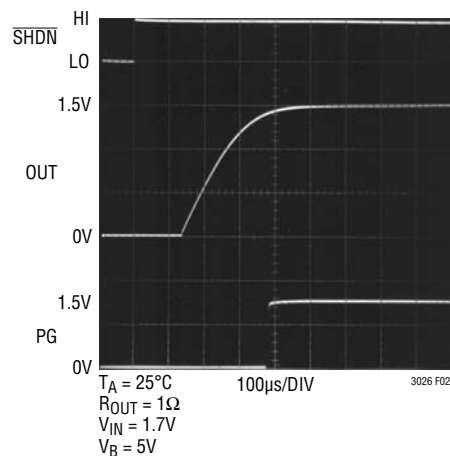

Figure 2. Soft-Start with Boost Disable
**ADJ (Pin 8):** Output Adjust Pin. This is the input to the error amplifier. It has a typical bias current of 0.1nA flowing into the pin. The ADJ pin reference voltage is 0.4V referenced to ground. The output voltage range is 0.4V to 2.6V and is typically set by connecting ADJ to a resistor divider from OUT to GND. See Figure 2.
The LTC3026 also includes a soft-start feature to prevent excessive current flow at  $V_{IN}$  during start-up. When the LDO is enabled, the soft-start circuitry gradually increases the LDO reference voltage from 0V to 0.4V over a period of approximately 200μs, see Figure 2.